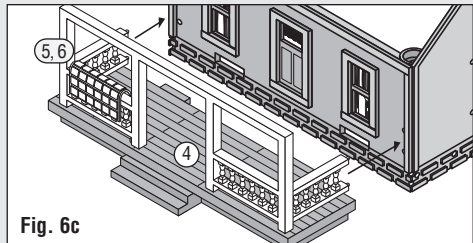

Fig. 6c
- Align tabs and placement posts on Front Porch Assembly (4,5,2x,6) with placement holes on Front Wall (Fig. 6c) and glue in place.